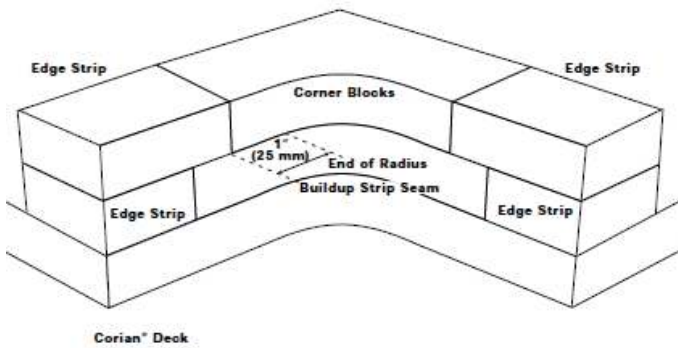
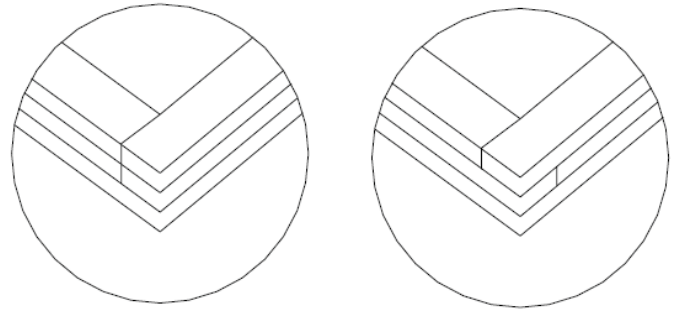

Figure L-3
Figure M-2
5. Seam all pieces in place and to each other and finish in the usual manner. See Figure L-3.
5. Make inside corners as shown in Figure L 3. Outside corners may be made by simply butting the strips together or by alternating the seams in the layers. See Figure M-2.